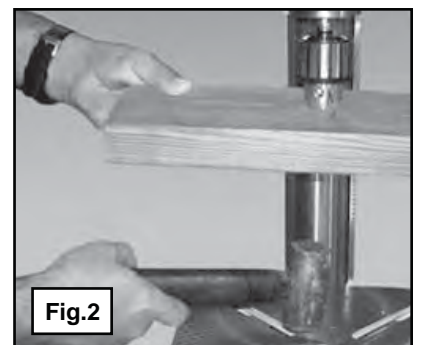

Fig.2
- Push the chuck onto the arbor (SEE FIG.2).
- Using a wood mallet, firmly tap the chuck upward into position on the spindle shaft (SEE FIG.2).